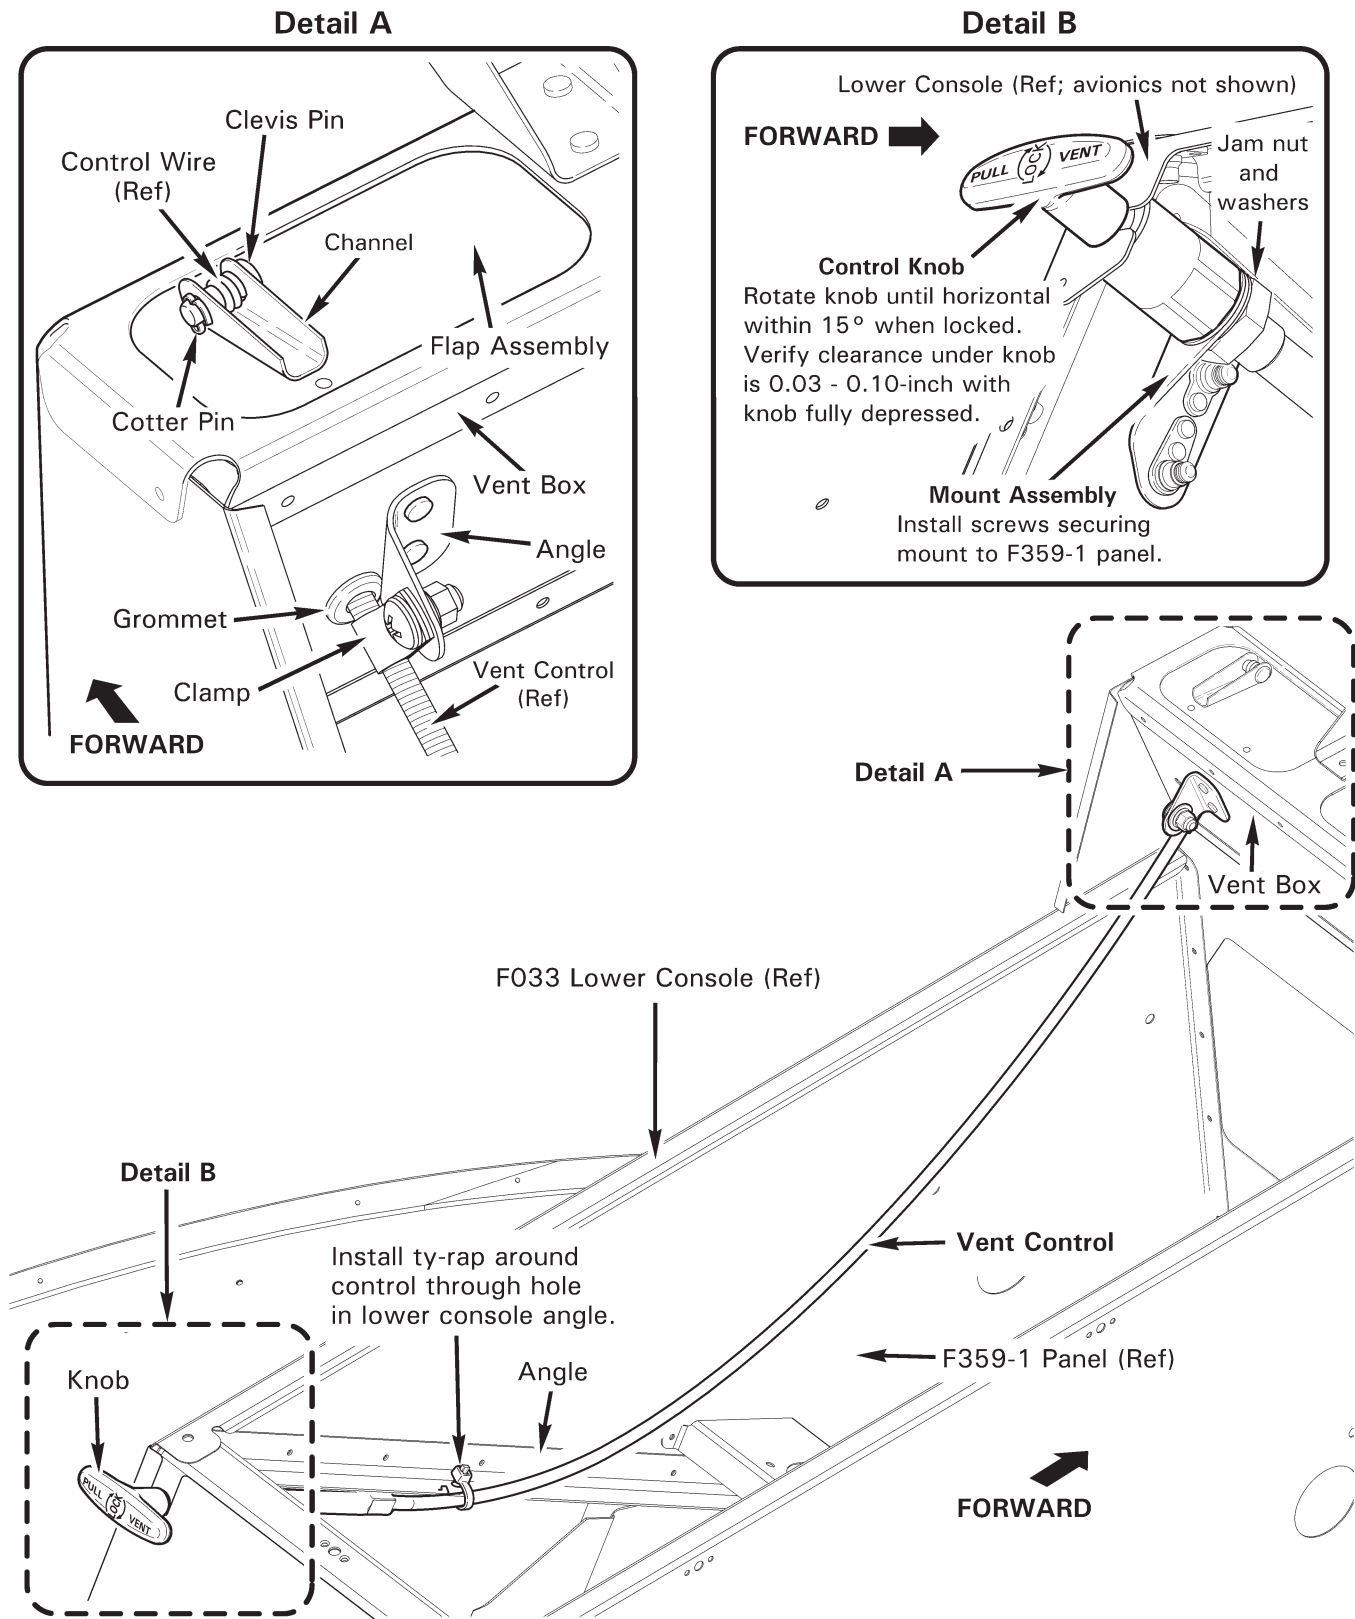

FIGURE 21-1 NOSE VENT
Refer to R66 Illustrated Parts Catalog (IPC) Figures 21-1.
2. Refer to Figure 21-1. Remove screws attaching upper console to lower console and hinge console aft. Protect instrument face with foam support or equivalent.
1. Refer to Figure 21-1. As required, install C365-12 mount assembly, lockwashers, and jam nut on C522-5 (air vent) control housing, but do not tighten jam nut. Install AN742-3 clamp and (new, as required) MS35489-4 grommet on control housing.